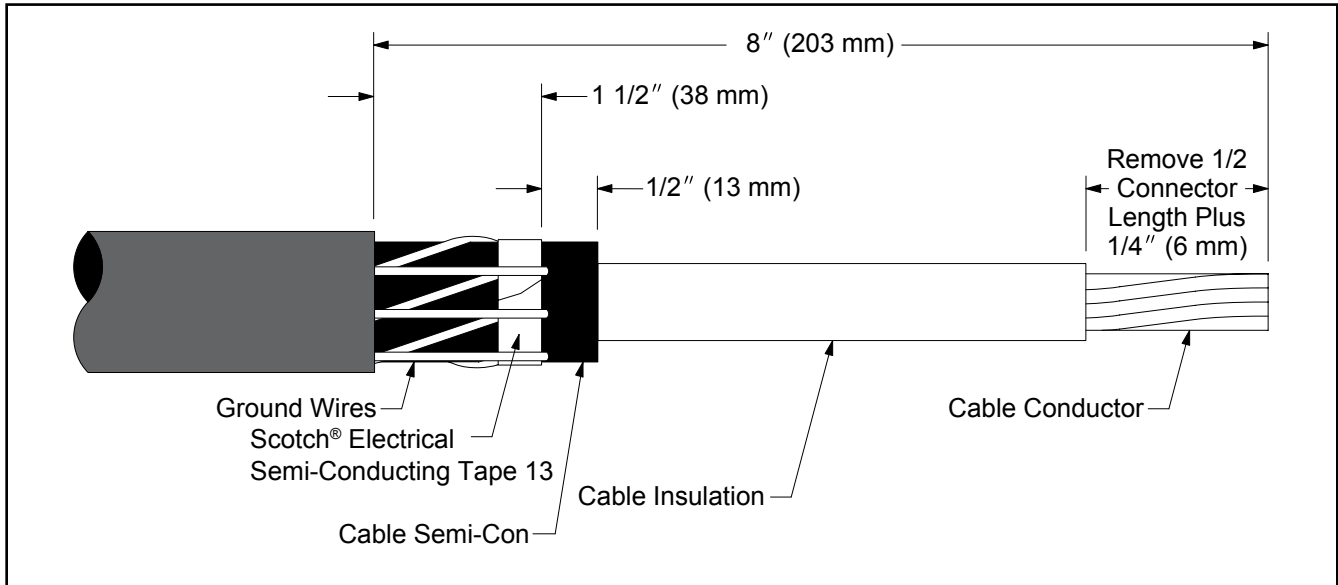

Figure 3
- Remove jacket a distance of 8" (203 mm) (*Figure 3*).
- Wrap 2 full wraps Scotch® Electrical Semi-Conducting Tape 13 over ground wires, 1 1/2" (38 mm) from cable jacket ends (*Figure 3*).
- Bend ground wires back over 13 tape and cut off wires at jacket edge (*Figure 3*).
- Remove cable semi-con layer as shown (*Figure 3*).
- Remove cable insulation from cable ends for a distance of 1/2 connector length plus 1/4" (6 mm) (*Figure 3*).